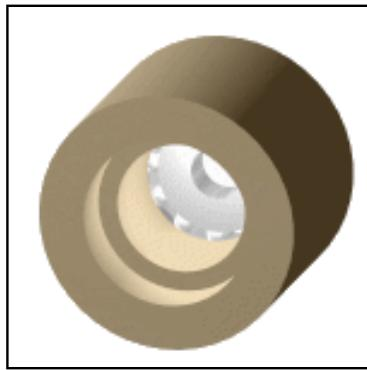

figure 15
- **Ball bearing shaft rollers.** (see figure 15 and 16)
that you can test which nylon is working the way you would like. Once you have stable test results you could then opt for the better method of adding ball bearings into the rollers to ensure a long continuous life to your machine. (see figure 15 and 16) There are many various, tried and tested methods with roller materials and their construction. There is no absolute right or wrong method of construction. Feel free to add your own tried and tested methods in place of this.